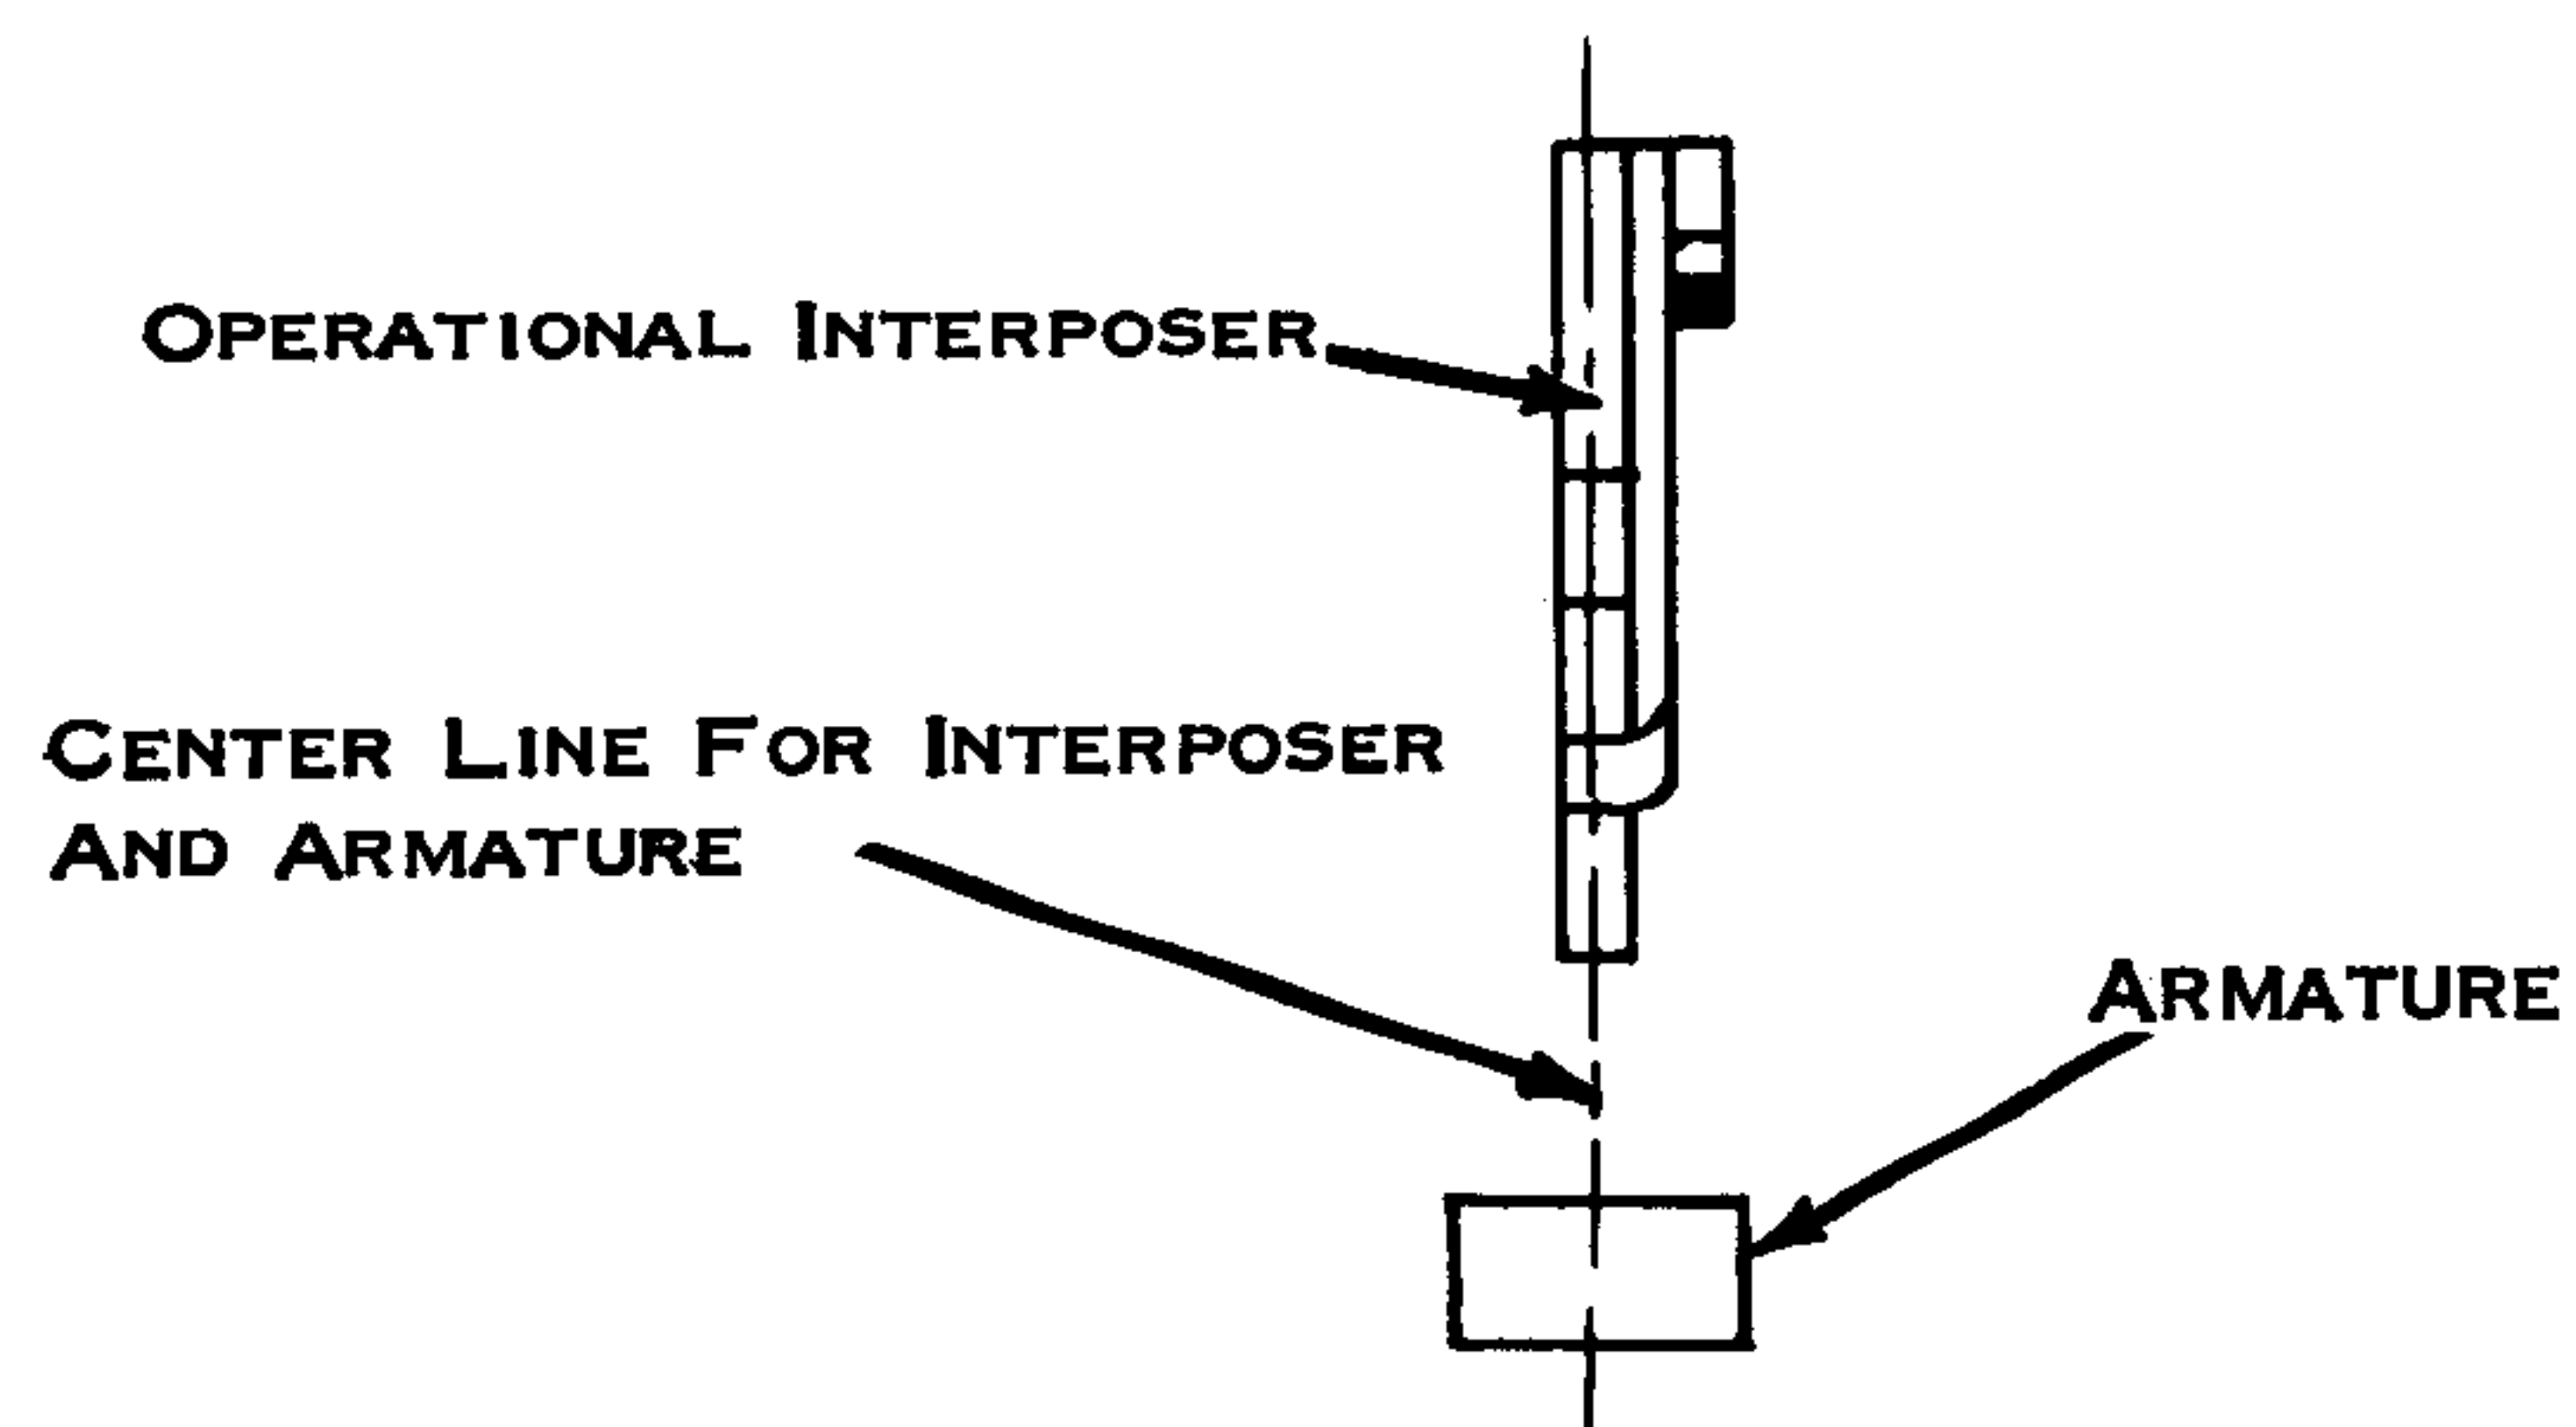

Figure 131. Left to Right
- Left to Right - so that the armatures are directly beneath their corresponding interposers (Fig. 131).